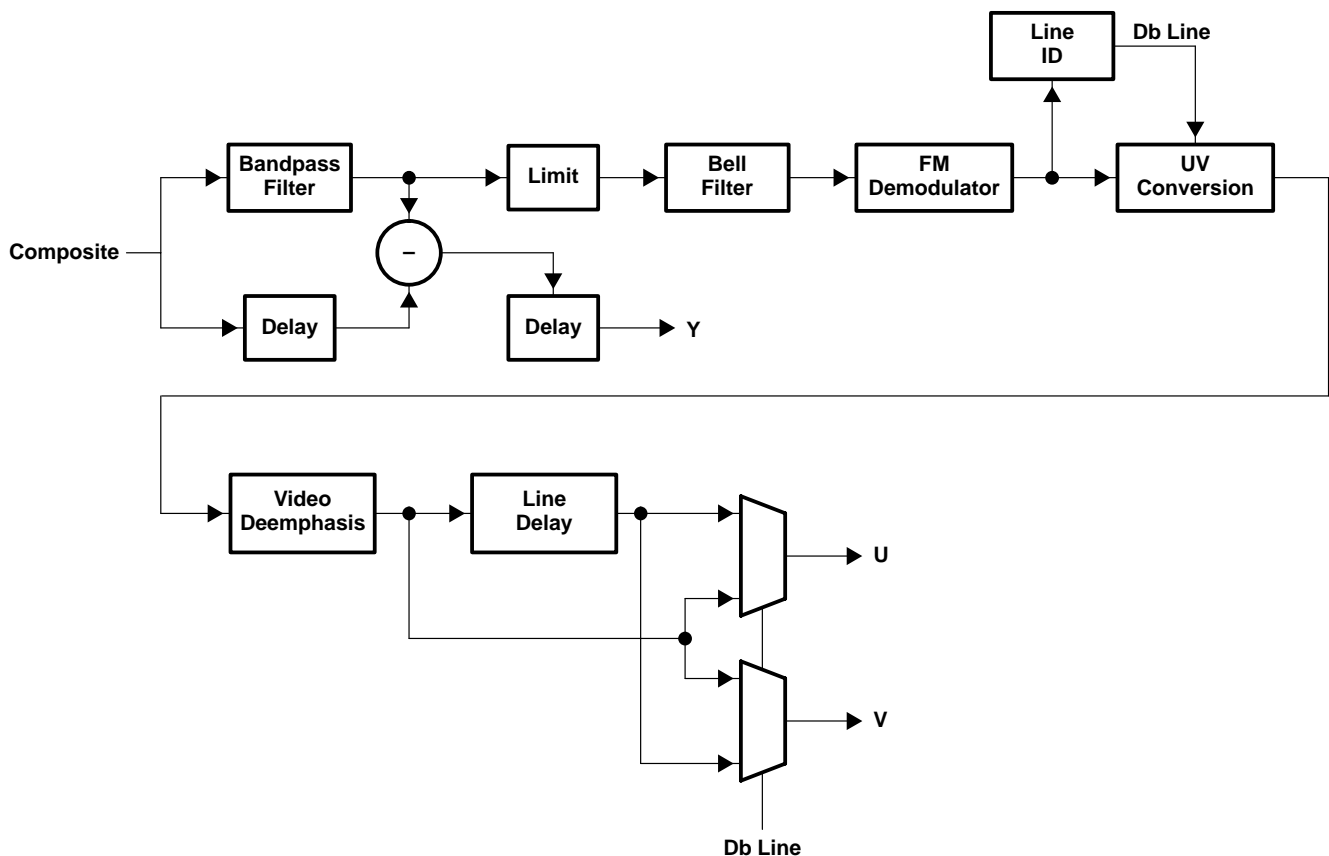

Figure 2–19. SECAM Data Path
The SECAM standard is similar to PAL except for the modulation of color which is frequency modulation (FM) instead of quadrature amplitude modulation (QAM). The color difference signals Db and Dr are transmitted on an alternating line basis using two different color FM carrier frequencies: 4.25 MHz for Db (blue) and 4.40625 MHz for Dr (red). A line reference signal which is transmitted during the back porch interval identifies the appropriate color signal. Figure 2–19 is a block diagram of the processing data path for SECAM which decodes into YUV. Luma Y is generated by filtering the chroma using a bandpass filter and then subtracting the chroma from the composite input. The delay blocks compensate for delays in the filter and the chroma data path. The filtered chroma is then limited and filtered by a bell filter. The bell filter emphasizes (amplifies) the FM carrier which was deemphasized (attenuated) by the encoder prior to transmission. The bell filter output is then fed to the FM demodulator which outputs a scaled version of UV. These scaled outputs are then converted to UV by the UV conversion block. The line ID block monitors the FM demodulator outputs during the back porch interval so that the Db or Dr line can be identified. The video deemphasis block attenuates the higher frequency components of the inputs which were emphasized (amplified) by the encoder in order to improve SNR. Both the bell and the video deemphasis filters have a nonlinear phase characteristic as required by the SECAM standard ITU-R BT.470. A line delay and two multiplexers demultiplex the UV into separate cosited U and V outputs.
The frequency responses for the SECAM filters and FM demodulator characteristic are shown in Figure 2–20 for the ITU-R BT.601 and square pixel sampling rates.